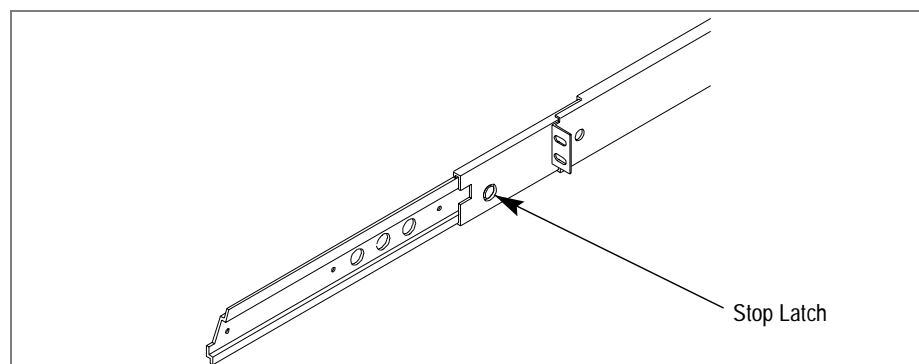

Figure 6-4. Rack Slide Stop Latch
4. Slide the chassis out of the rack until the rack slide stop latches on each side engage (Figure 6-4).
1. Align the chassis slides with those on the rack and slide the chassis in until the stop latches engage (Figure 6-4).